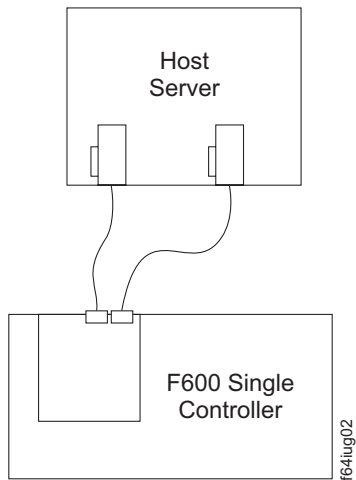

Figure 26. Example of a single server configuration with two adapters (Model 6LU/6LX)
- Single server configuration with two adapters (Figure 26 on page 30)